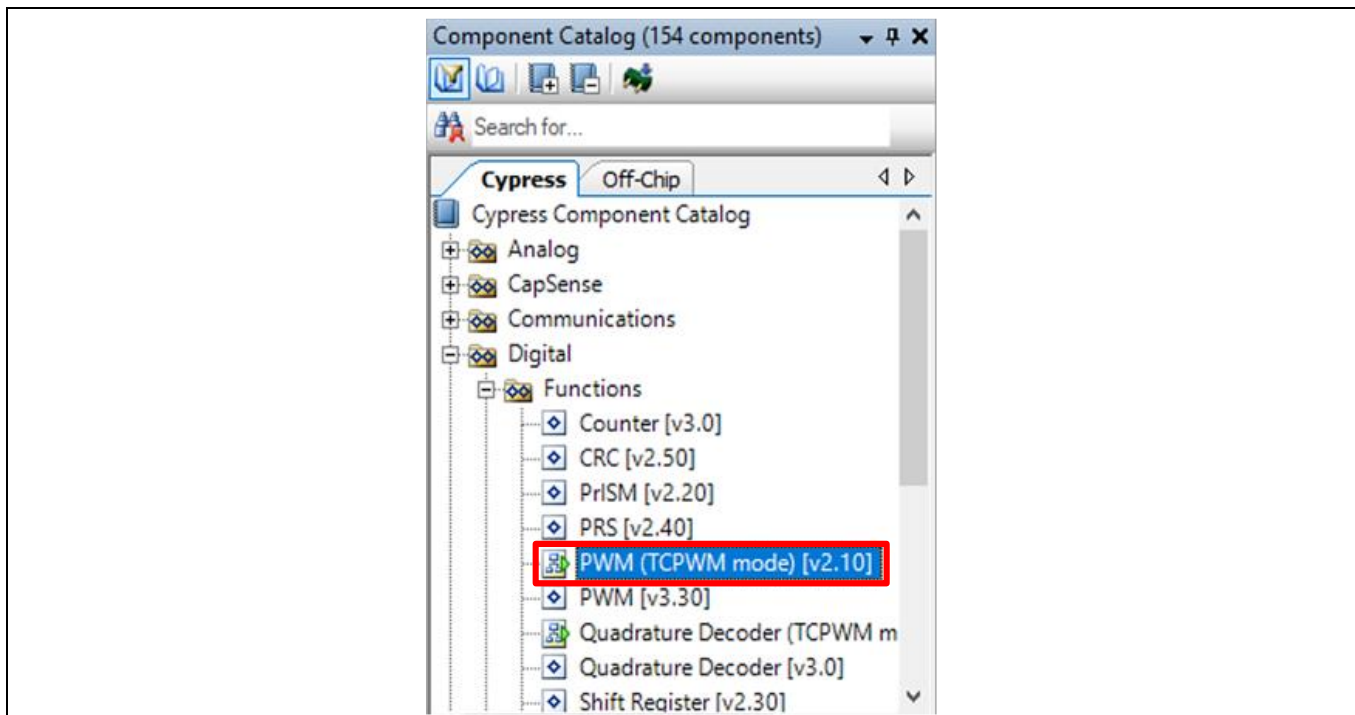

Figure 38 Location of the PWM Component
6. Drag one **PWM (TCPWM mode)** Component from the **Component Catalog** onto the schematic, as shown in Figure 38.